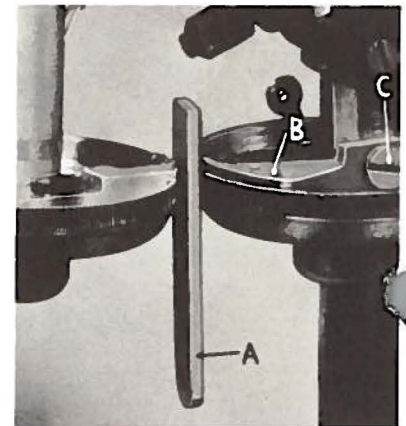
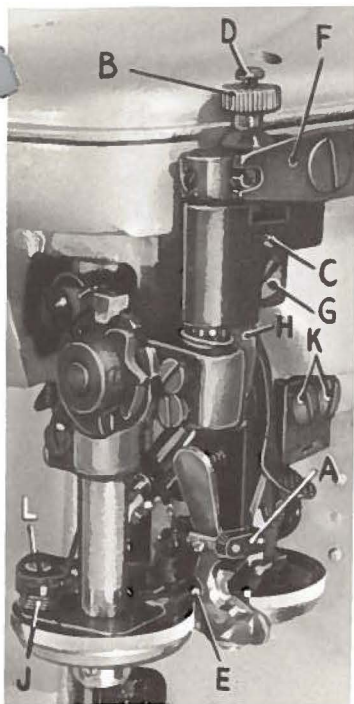

Fig. 5
Fig. 13
Gauge No. 21227 M (A, Fig. 5) is now used to determine the distance between the front and rear feed cups. Move front feed cup to its extreme outward position by exerting pressure on separating rod and then insert gauge, which should barely pass between them.
The stitch tongue support (B, Fig. 5) is held by screw (C), which allows a horizontal adjustment, and screws (K, Fig. 13) holding the stitch tongue support bracket, which allows a vertical adjustment.
The uncurling device (A, Fig. 13) should be centered between the feed cups. Adjustments can be made vertically and horizontally.